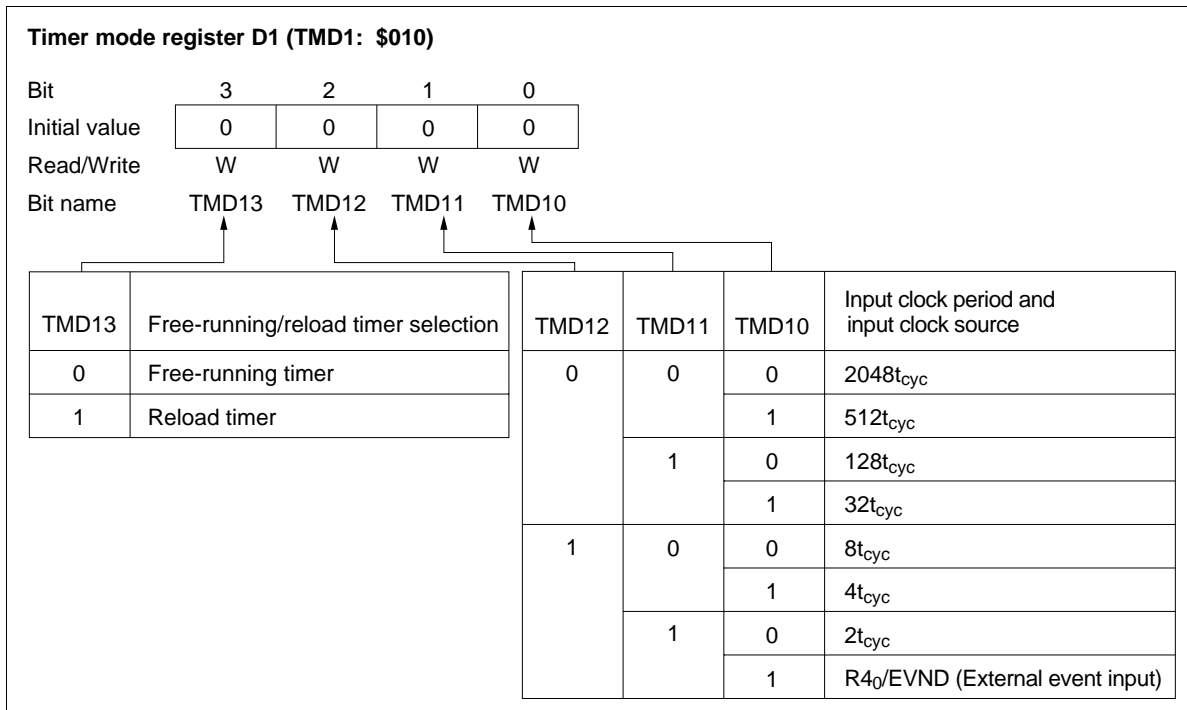

Figure 59 Timer Mode Register D1 (TMD1)
- **Timer mode register D1 (TMD1: \$010):** Four-bit write-only register that selects the free-running/reload timer function, input clock source, and the prescaler division ratio as shown in figure 59. It is reset to \$0 by MCU reset.